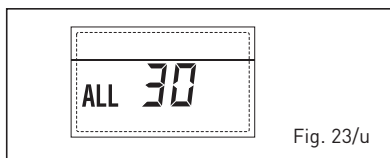

Fig. 23/u
– **CASCADE DELIVERY SENSOR ERRORS “ALL 31” (fig. 23/v)**